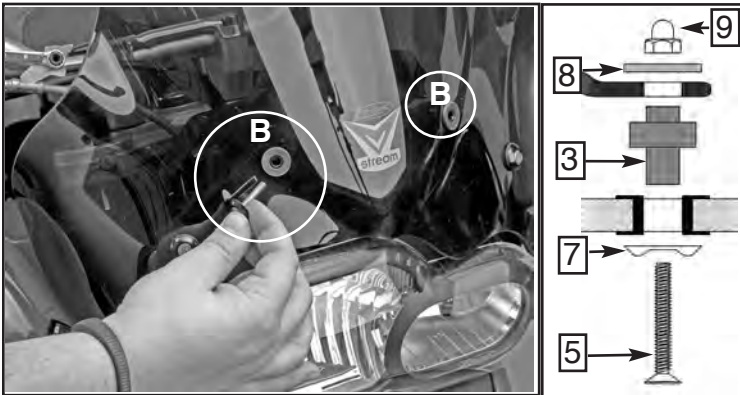

Figure 4
4. Install windscreen at the inner mount (B) locations using the screw assembly as shown in figure 4. (5mm Hex Wrench, Closed Box Wrench) Figure 4.